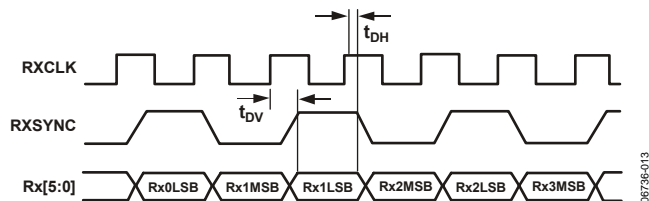

Figure 13. Full-Duplex Rx Port Timing
- The Rx data is valid on the rising edge of RXCLK, as illustrated in the timing diagram shown in Figure 13.